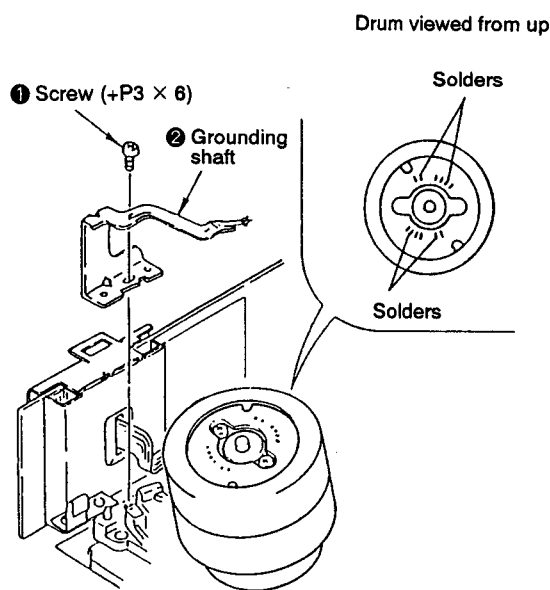

Fig. 4.
- 1) Remove the screw ❶ (+P3 × 6) and take out the grounding shaft ❷. (See Fig. 4.)